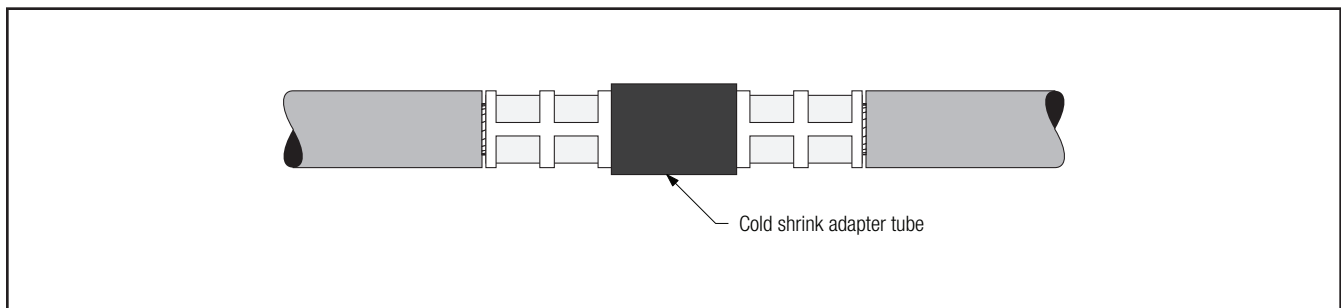

Figure 14
- 4.2 **If using cold shrink adapter tube:** Position adapter tube over the connector. Shrink adapter near center of connector by pulling and unwinding the loose core end in a counter-clockwise direction (*Figure 14*).